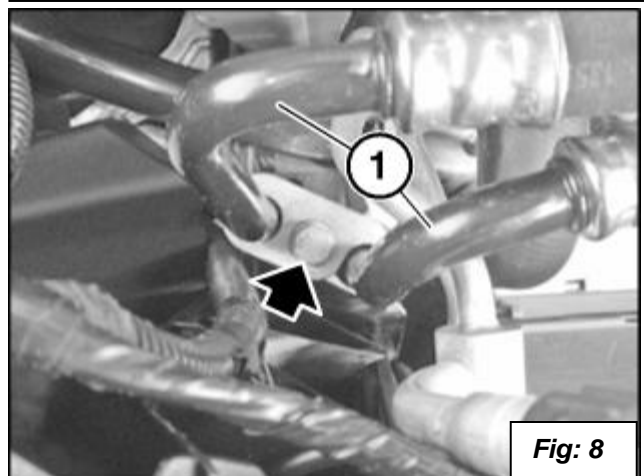

Fig: 8
12. Remove the oil cooler. Start by putting a drain pan under the oil cooler where the lines attach. Have some rags ready. Remove the bolt holding the oil lines (1) to cooler. See **figure 8**.